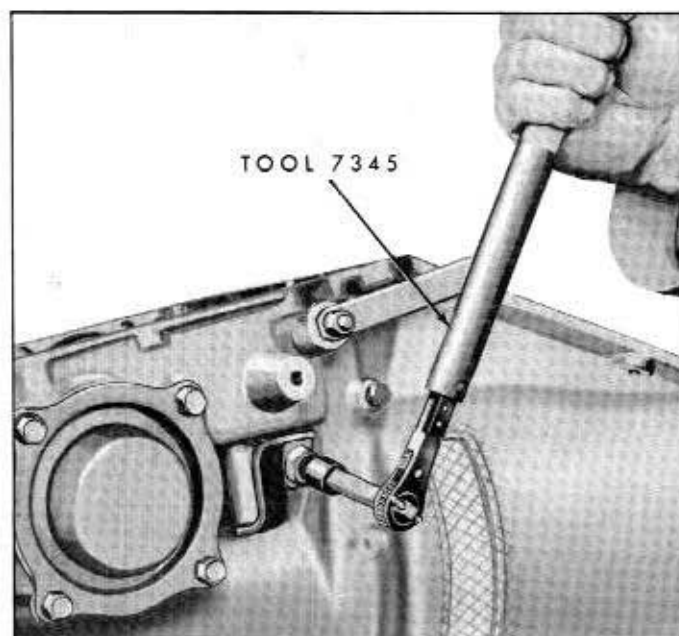

Fig. 7A-40—Adjusting Low Band—(60C-4440)
1. Adjust the reverse band, using the special tools shown in figure 7A-41.